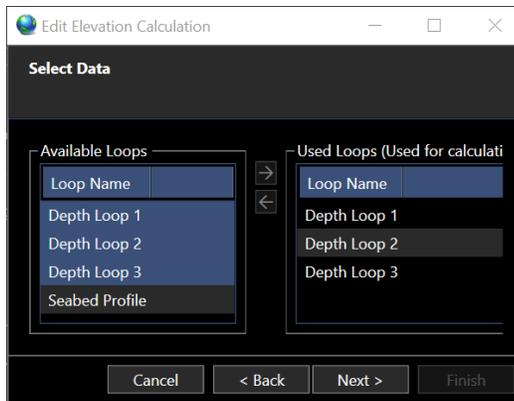

FIGURE 116 EDIT ELEVATION CALCULATION – SELECT DATA PAGE
- Click Next to open Select Data page. Select the depth loops to apply in the calculation from Available Loops panel and click the → button to add them to the Used Loops panel, to remove a depth loop from Used Loops panel, select it and click the ← button, see Figure 116.